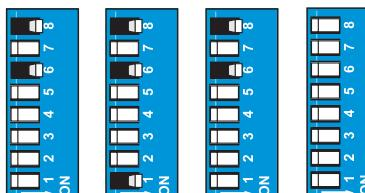

Fig. 4.1.2
2. Place dip-switch 6, then dip-switch 8 and subsequently dip-switch 1 in their **ON** positions, as shown in Figure 4.1.2.